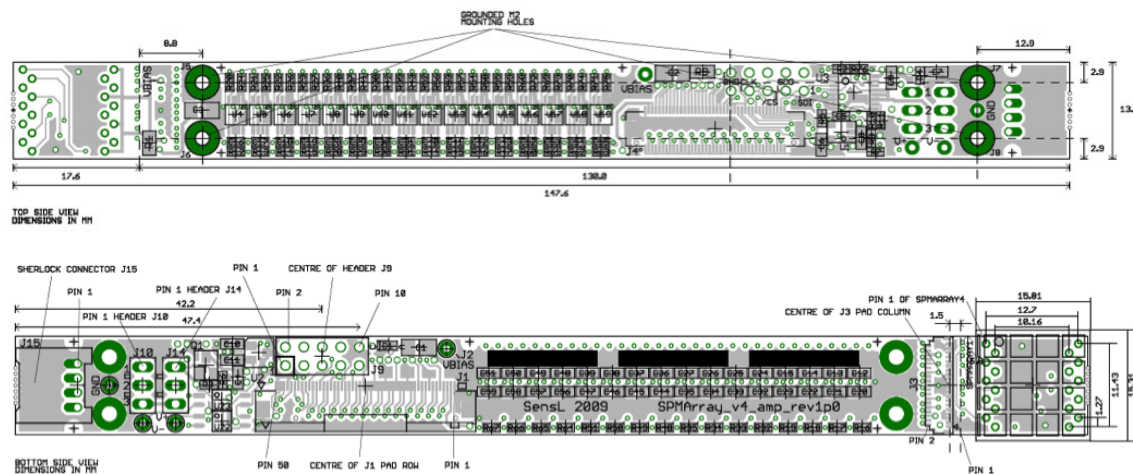

Figure 5: Top and bottom views of the preamplification board
*Sherlock pin 1 position indicated on Figure 5.